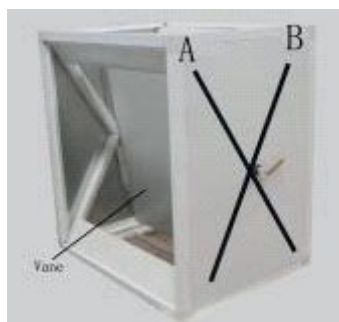
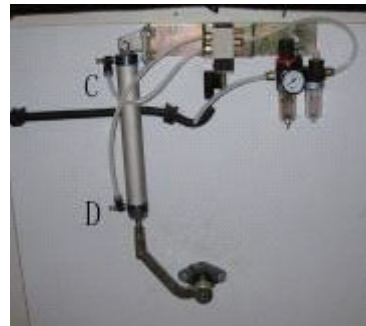

Fig. 2.35
Fig.2.36
**ATTENTION:** There is a vane inside the damper shown in Fig.2.35.When the vane in the position A,that is the painting system,and when the vane in the position B,that is the baking system.You can test it when you are operation.If you find the wrong position,change the air pipe Port C and Port D shown in Fig.2.36 is ok.